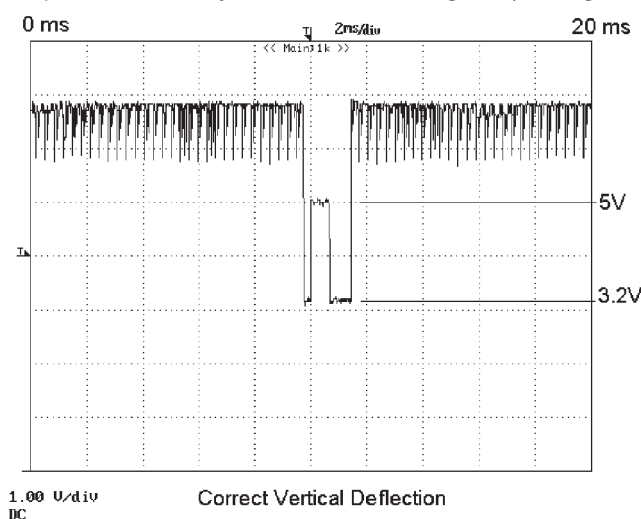

Fig 7.6.1: Pin 50 correct signal
- An extra protection is obtained when there is too much current in the CRT (for example +200V supply is missing), because in this case, DC level of pulse is lower by means of cut-off signal. (See fig. 7.6.1)